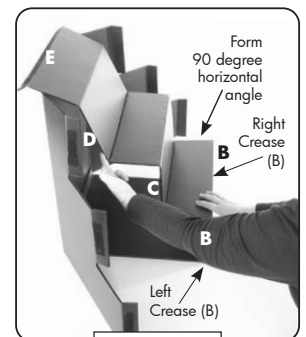

Figure 7
- 7** Holding **PANEL 2**, bend the right crease of section B into a 90 degree *horizontal angle*. **See Figure 7**. (Note: Sticker labels A, B, C & D of **PANEL 2** should now be facing down towards the inside of the structure).